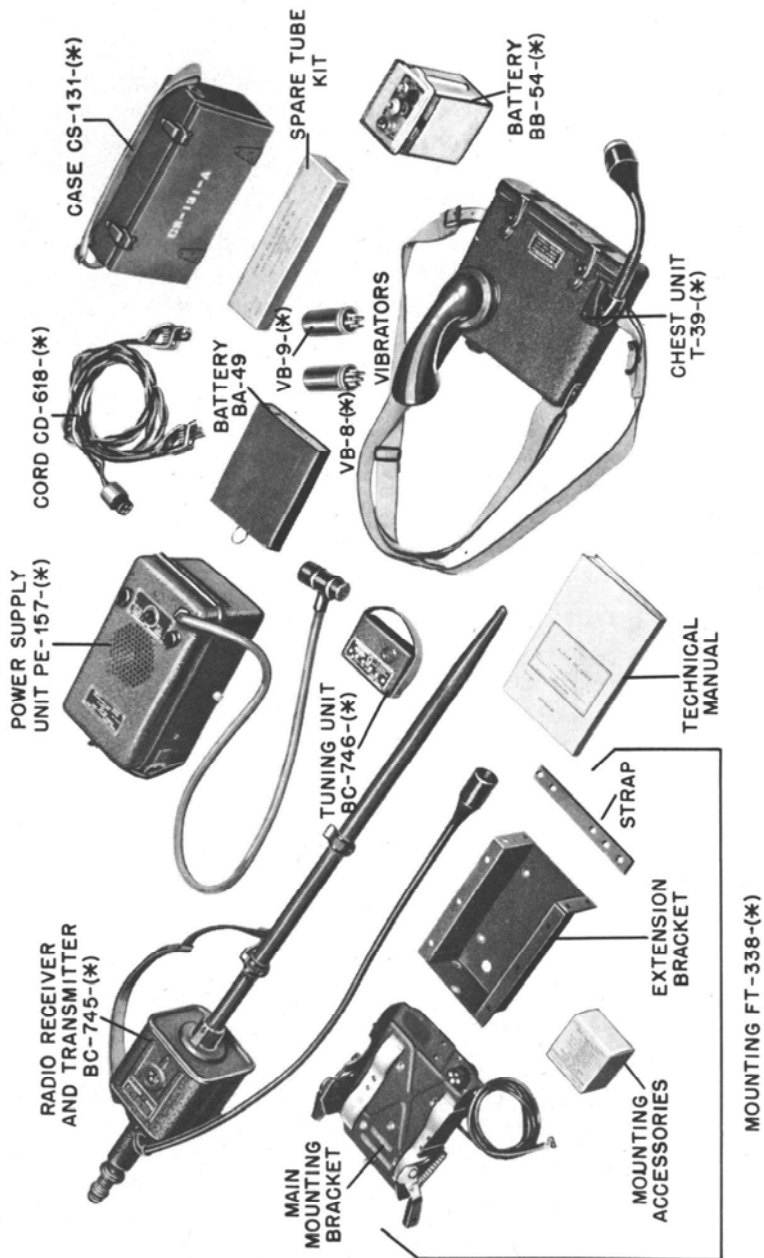

Figure 1. Radio Set SCR-511-(\*), Components
**2. RADIO SET SCR-511-(\*) , COMPONENTS WITH WEIGHTS AND DIMENSIONS (See Figure 1 for illustrations)**
2. RADIO SET SCR-511-(\*), COMPONENTS WITH WEIGHTS AND DIMENSIONS. (See Figure 1 for illustrations)—Continued
Case CS-131-(\*), is a wooden case containing spare vibrators VB-8-(\*), and VB-9-(\*), Cord CD-618-(\*), and spare tube set. An adjustable strap is fastened to the box for carrying. (Figure 1)
sockets and are sealed against moisture and vibration. A thumb-ring located above the handle grip serves as a *press-to-talk* switch and is mounted on the top of the housing. It is linked to a spring-loaded, seven-pole, double-throw, transmit-receive switch. The entire unit is water and moisture proof. (Figure 1)
Mounting FT-338-(\*), is used to hold Power Supply Unit PE-157-(\*), in a position in a vehicle. This mounting consists of a main mounting bracket; an extension or auxiliary bracket, a strap to provide additional support, and all necessary hardware. (Figure 1)